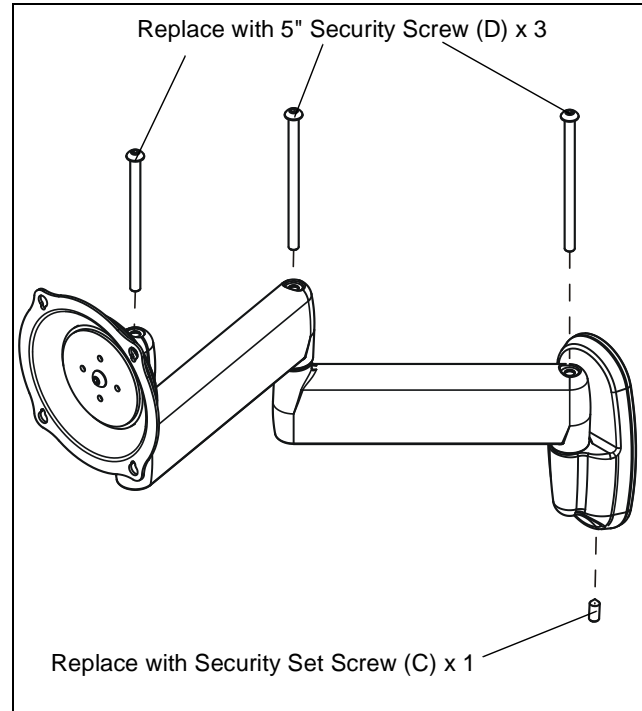

Figure 2
3. Remove three existing fasteners on medium flat panel mount (dual arm assembly shown for reference) and replace with three 5/16-18 x 5" button head security screws (D). (See Figure 2)
4. Replace the set screw with the 5/16-18 x 3/4" security set screw (C). (See Figure 2)